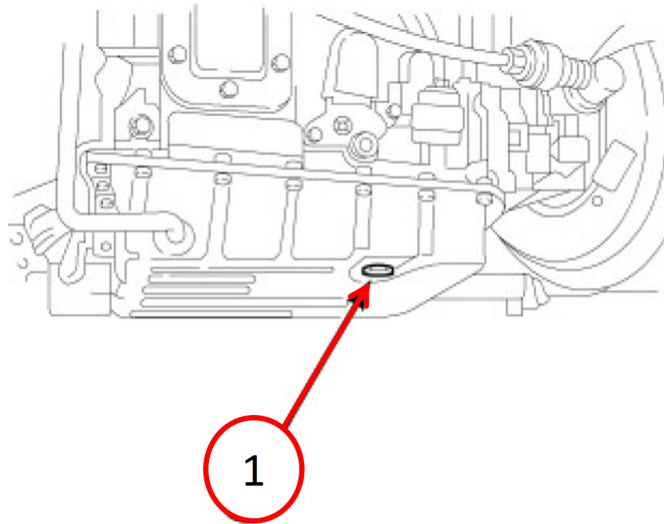

Fig. 1
4. Remove oil pan drain plug (Fig. 1) and drain fluid from transmission.